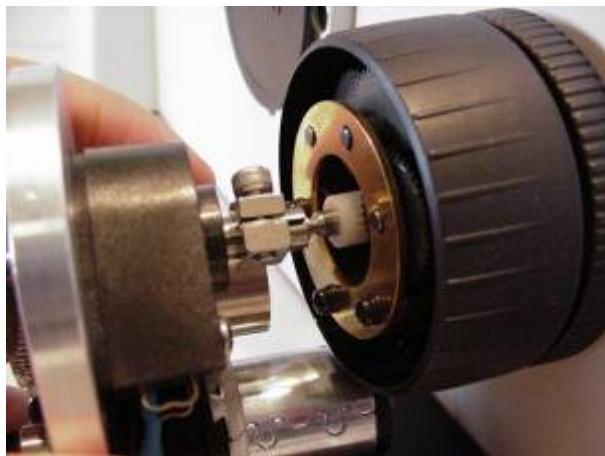

Figure 7 Install Z-drive over fine focus shaft
- Locate the ASI fine focus motor drive and vertical adjustment screw (M4 x 12 hex head screw removed when the base plate was installed). Align the drive shaft on the ASI drive with the microscope fine focus shaft and slide the motor drive over the fine focus shaft as shown in figure 7.